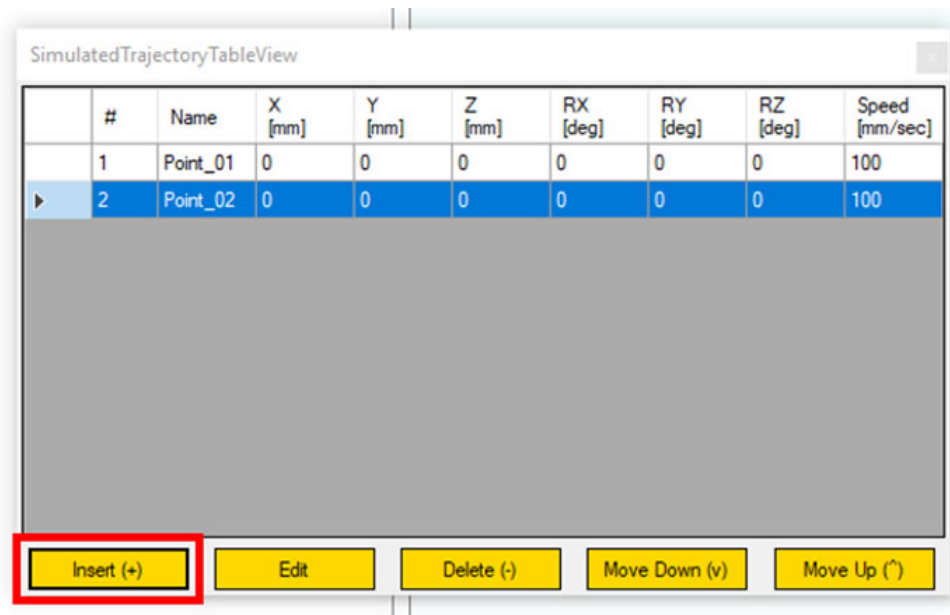

Figure 244: Creating Simulated Trajectory Points
5. In the Simulated Trajectory Table View, users can add and position simulated trajectory points throughout the IPGScan canvas. Users can create simulated points by clicking the "Insert (+)" button. See Figure 244 (below).